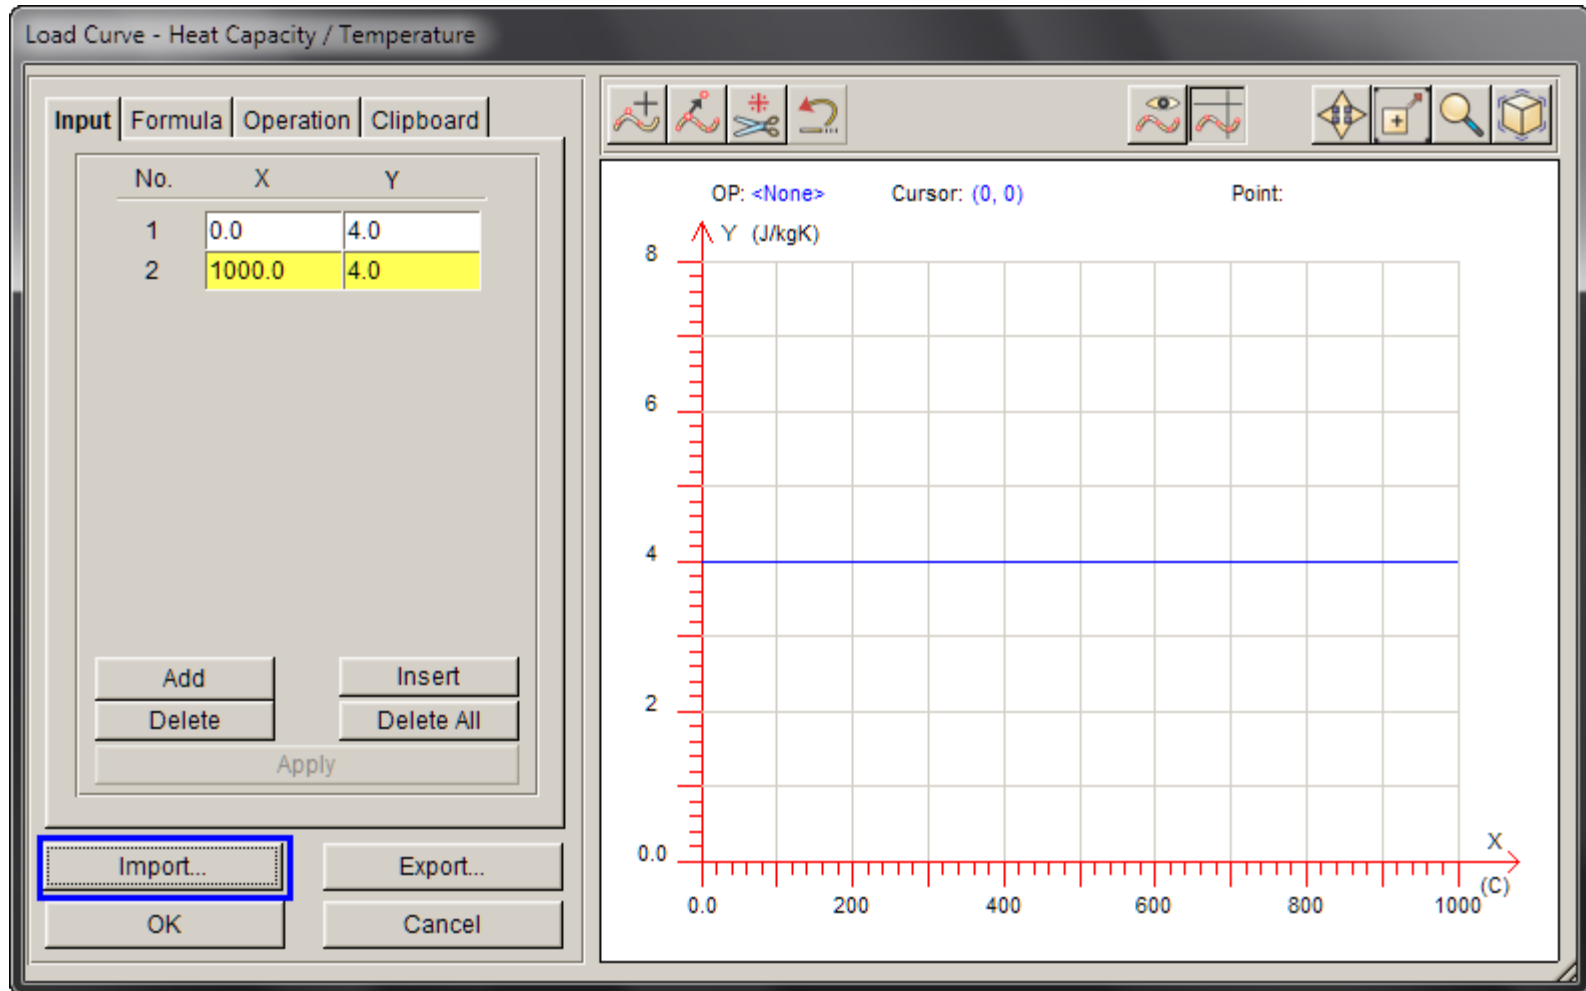

Figure 38
5. Click **Import...** to import the heat capacity curve. (Figure 38).